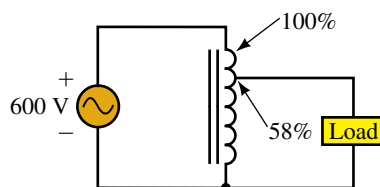

FIGURE 24-38
7. The autotransformer of Figure 24-38 has a 58% tap. The apparent power of the load is 7.2 kVA. Calculate the following: